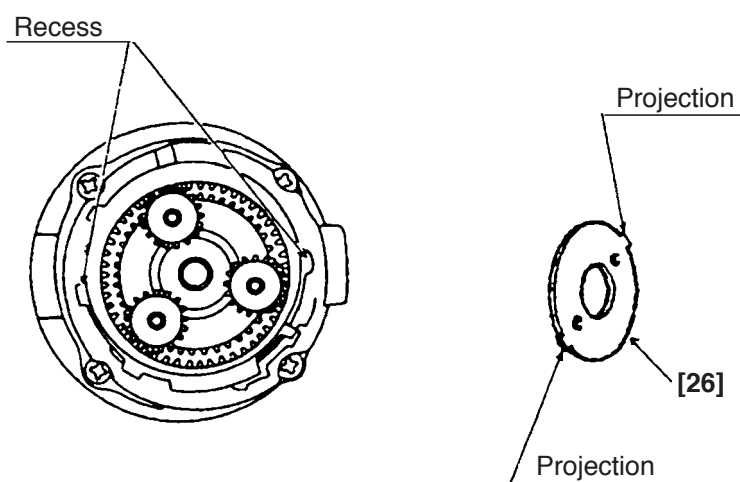

Fig. 12
- (ii) Install Washer (B) [26] in the Rear Case [17] with the projections of Washer (B) [26] engaged with the recesses in the Rear Case [17], and turn Washer (B) [26] clockwise until it can turn no further. (See Fig. 12.)